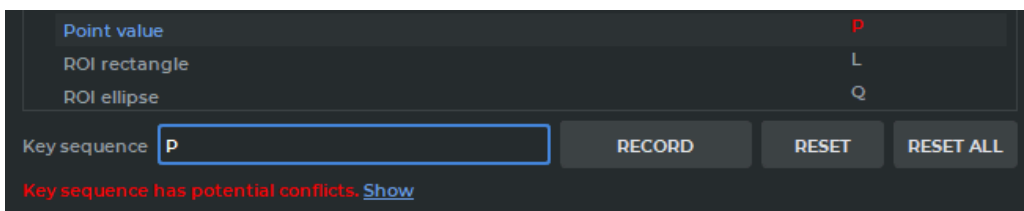
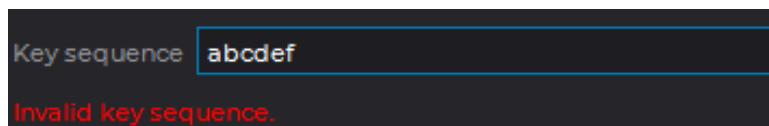

Figure 15.6: Warning about key sequence potential conflict
Figure 15.7: Warning about invalid key sequence
6. If the entered hotkeys are already used, a warning similar to the one shown in Fig. 15.6 will be displayed, and the value in the **Key sequence** column will be written in red. To see which action corresponds to this hotkeys, click **Show**. Do not set the same hotkeys for the actions performed in one window. If the entered value cannot be set, a warning similar to the one shown in Fig. 15.7 will be displayed.